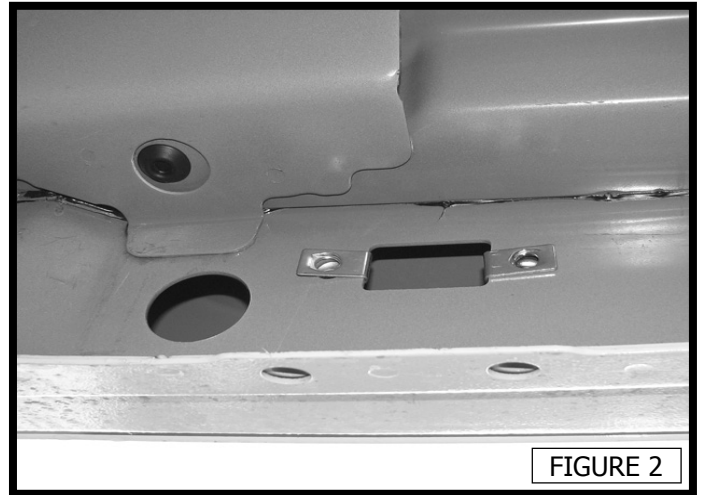

FIGURE 2
3. Insert (2) M8 clip nuts through the rectangular slot so the nuts show through the round holes. (FIGURE 2)